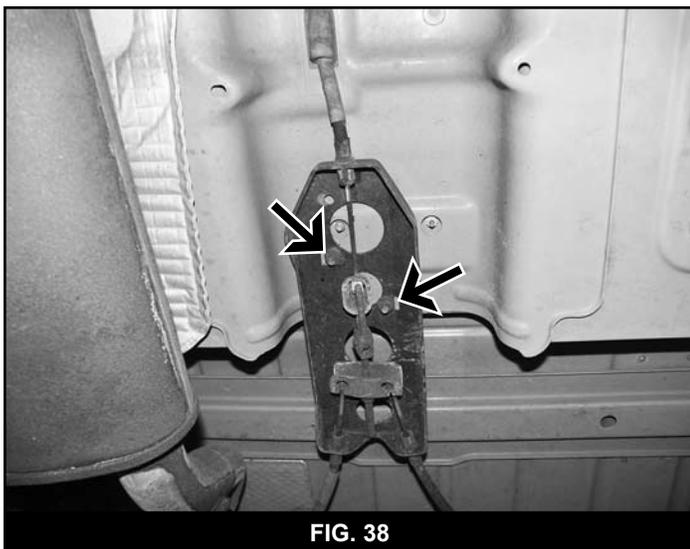

FIG. 38
16. Disconnect the emergency brake cable bracket from the bottom side of the body (Fig 38). Retain the mounting nuts.